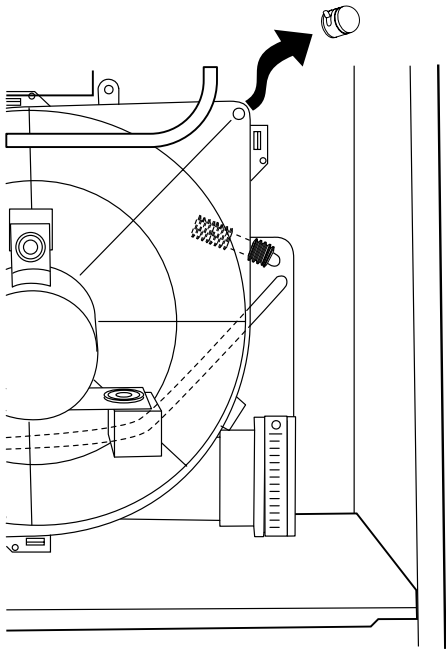

Fig. 14—Inducer Housing Drain Cap
3. Disconnect drain cap from unused drain tap on inducer housing. (See Fig. 14.)